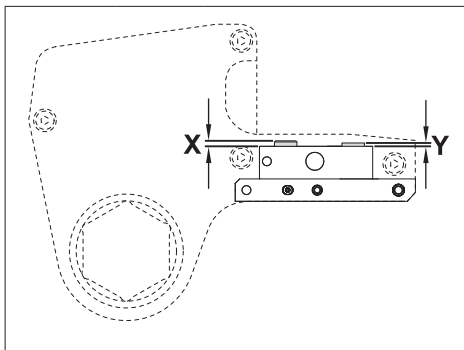

Fig. 21
- Check for the correct height for the drive unit retaining pin (K10) and the fail safe retaining pin (K11). See Figure 21, dimensions “X” and “Y”.